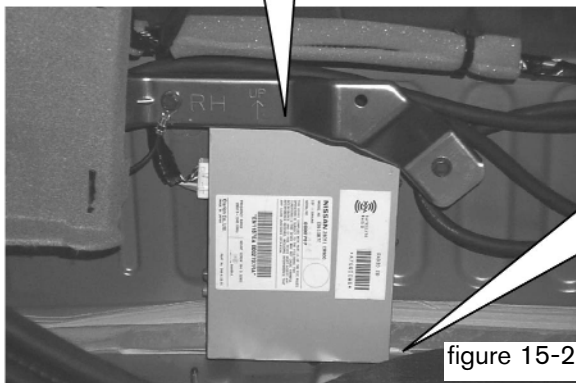

figure 15-2
8. Place the tuner between both bolts that secure the (RH) trunk bracket. Peel tape protector on Velcro loop side. Attach Velcro strip to the bottom panel of the trunk shown in figure 15-2.